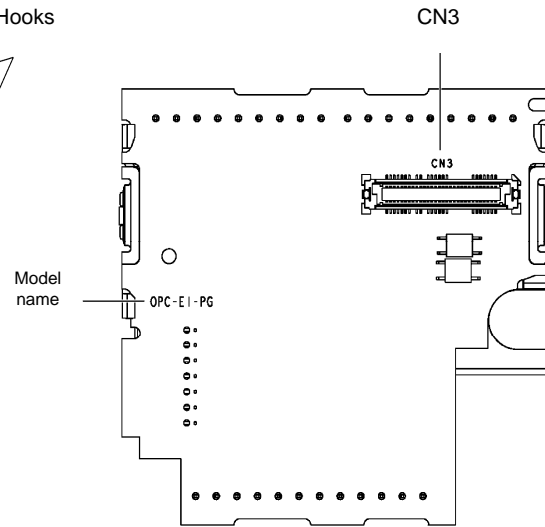

Figure 1.2
- (1) The PG interface card is the model you ordered.
- (2) The PG interface card is not damaged during transportation--no defective parts or lacking parts.
- (3) The model name "OPC-E1-PG" is printed on the PG interface card. (See Figure 1.2.)
(2) If the interface PCB is installed on the inverter, push the hooks provided on both ends of the interface PCB and pull it up and out of the inverter with both hands. (Store the removed interface PCB for future use.)
(3) Connect the CN3 connector (shown in Figure 1.2) on the PG interface card to the connector on the inverter until it clicks into place.